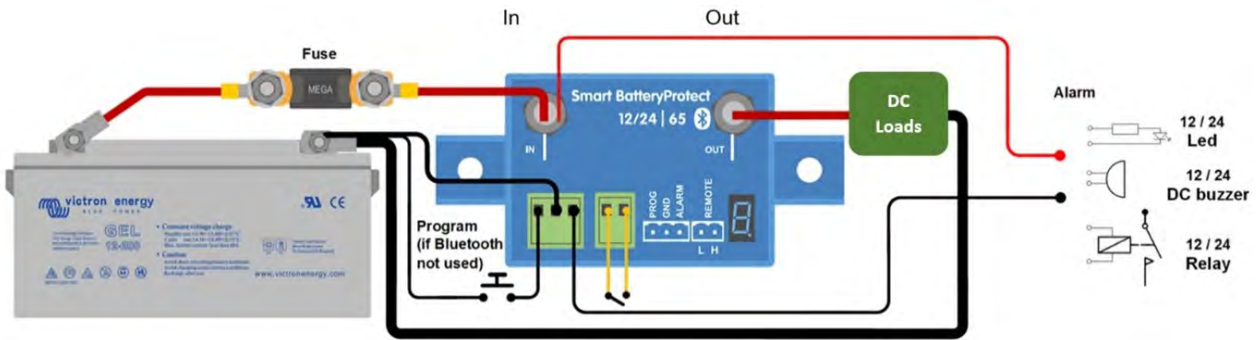

Figure 1: Connection diagram of the SBP-65 (use the remote input for system on/off functionality)
- A remote on-off switch can be connected between Remote H and Remote L (see figure 1). Alternatively, terminal H can be switched high (to battery positive), or terminal L can be switched low (to battery negative).
- A buzzer, LED or relay can be connected between the alarm output terminal and the battery positive (see figure 1). Maximum load on the alarm output: 50 mA (short circuit proof).
- Een zoemer, LED of relais kan verbonden worden tussen de alarmuitvoerklem en de batterij positief (zie afbeelding 1). Maximale belasting op de alarmuitgang: 50 mA (kortsluitvast).